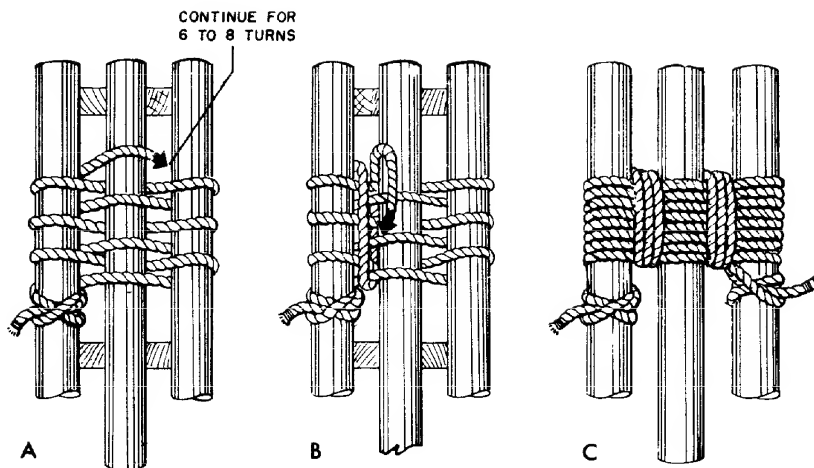

FIGURE 33.—*Making figure-eight lashing.*
- i. Raise and place—see figure 33.